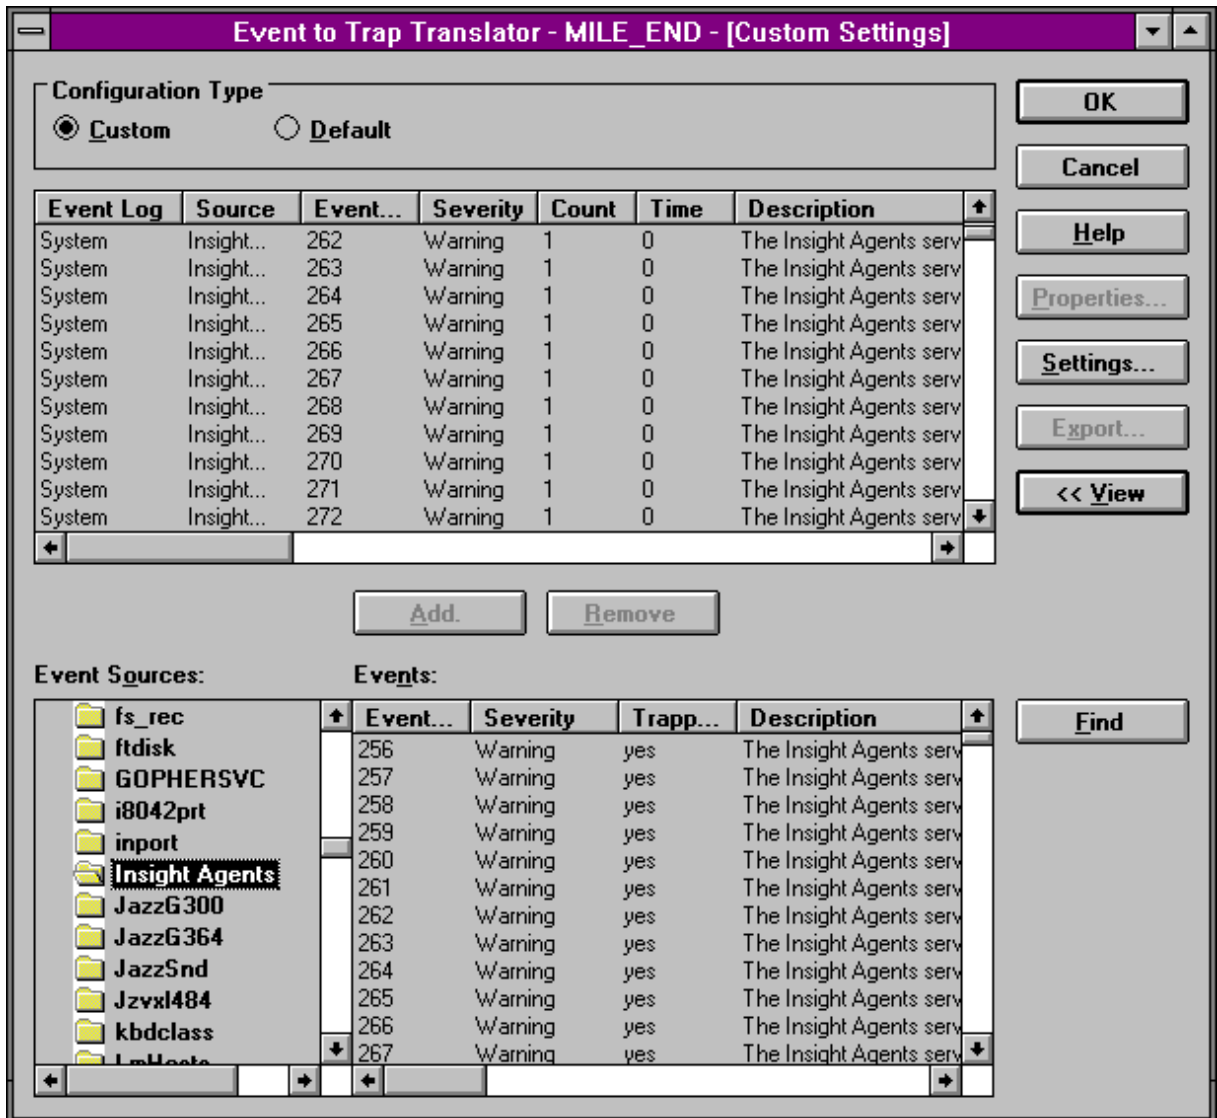

Figure 5-1. Finding the Insight Agents folder
6. Scroll to the Insight Agents folder and highlight it. An example of the *Event to Trap Translator* window is shown in Figure 5-1.